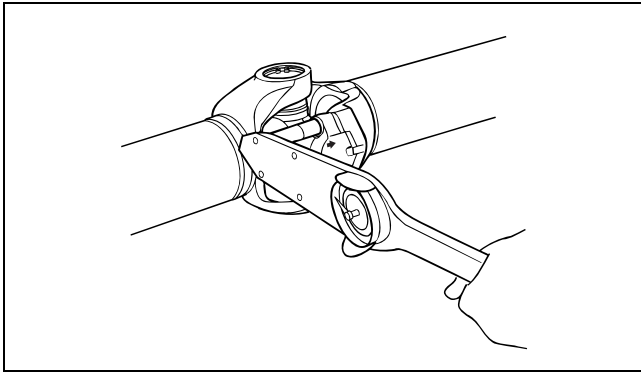

Figure 4.42
4. Use a torque wrench to alternately tighten the capscrews to 115-135 lb-ft (155-183 N•m). Figure 4.42. ⚠